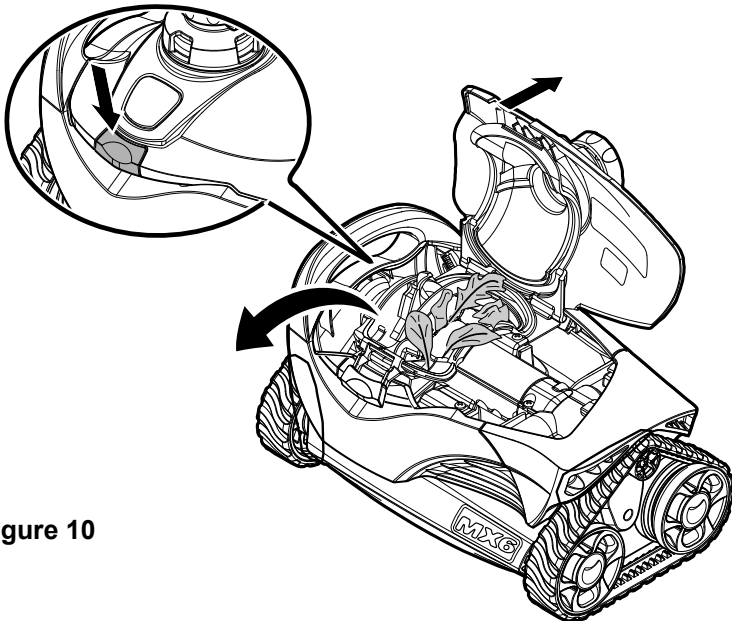

Figure 10
2. Open the cleaner lid until it stays open in a vertical position (Figure 10).
3. Look into engine and remove any leaves or debris (Figure 10).